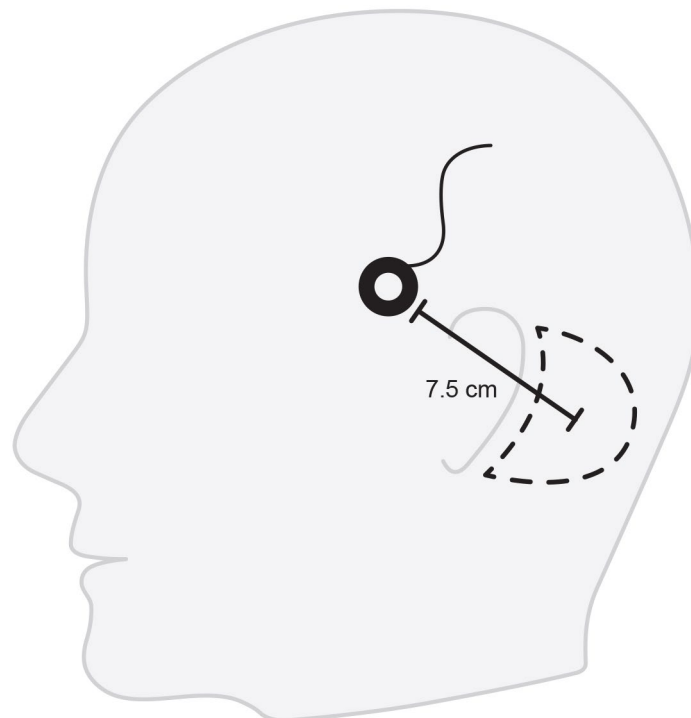

Figure 74 Position of the patient tracker electromagnetic for lateral skull surgery
3. Use the Patient Tracker Electromagnetic and place it on the same side of the head as where the bone screws are placed. If you are being assisted by a physician, the patient tracker can be moved correspondingly to the right or to the left. A distance of 7.5 cm is found to be most effective (Figure 74).
3. Use the Patient Tracker Electromagnetic or Patient Tracker Electromagnetic - 10 Uses and place it on the opposite side of the situs from yourself. If you are being assisted by a physician, the patient tracker can be moved correspondingly to the right or to the left. A distance of 7.5 cm has been found to be most effective (Figure 74).